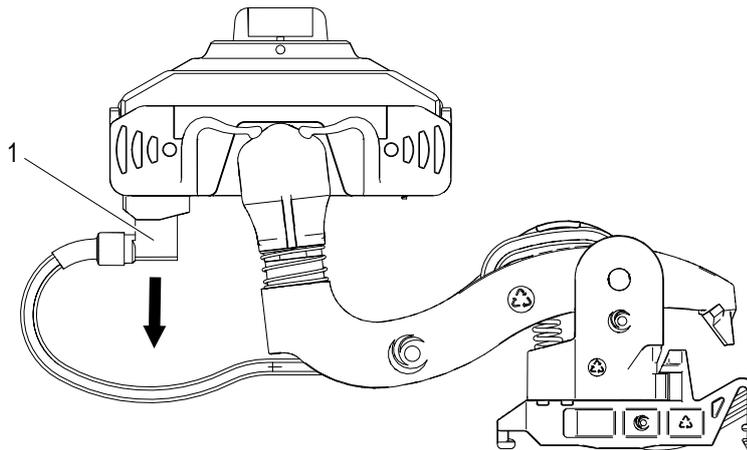

Fig. 147: Pull off angled blade receptacle
→ Pull off the angled blade receptacle (1) of the PE cable (see Fig. 147).